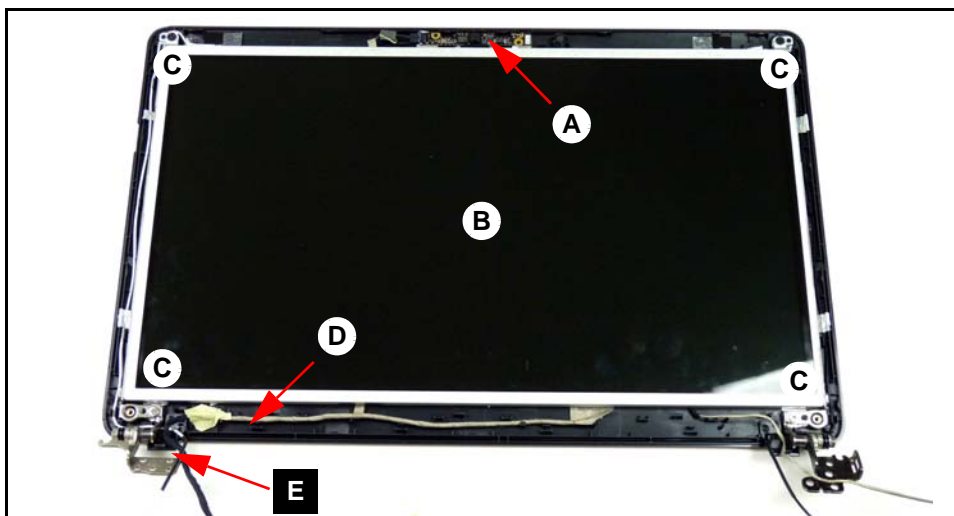
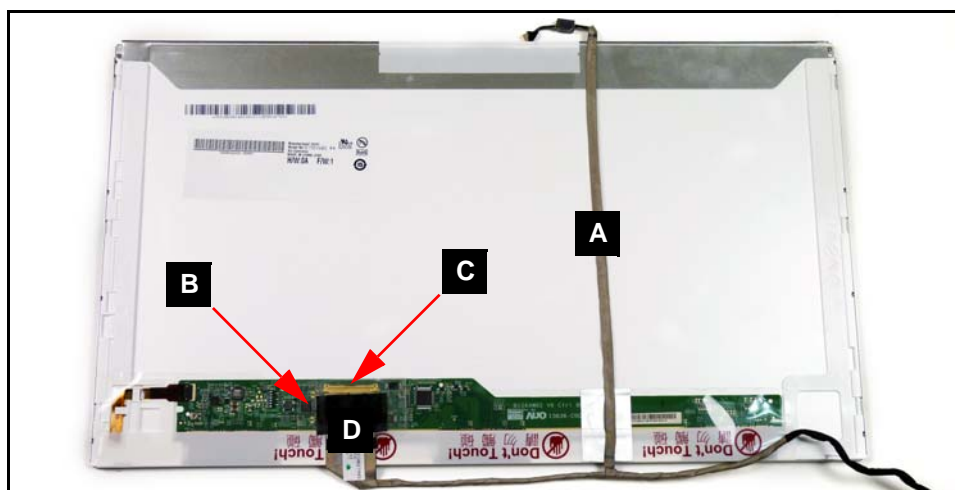

Figure 3-60. LCD Module Overview without Bezel
Figure 3-62. LCD Panel
1. Locate CCD module (A) on LCD module cover (Figure 3-60).
1. Locate LCD panel (B) on module cover. (Figure 3-60)
2. Remove four (4) screws (C) from module cover.
3. Lift adhesive foil tabs (D) covering LVDS cable (E).
5. Turn panel over and place face down on a clean surface (Figure 3-62).
1. Install LVDS cable (D) to panel connector (C) (Figure 3-62).
2. Secure transparent adhesive protector (B) to LVDS cable (D) and panel.
3. Install and secure CCD module cable (A) to panel.
4. Place LCD panel onto module cover. (Figure 3-60)
5. Secure adhesive foil tabs (D) covering LVDS cable (E) to module cover.
6. Install and secure four (4) screws (C) to module cover.